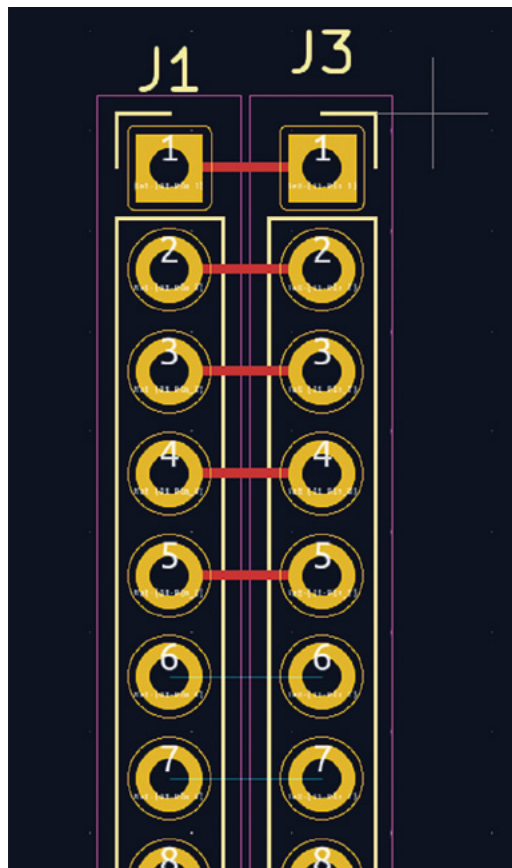

Figure 6 Drawing a rectangle that defines the cut edge of the PCB board
the grid to a more useful spacing. Select the 1 mm grid spacing, then left-click the rectangle tool. Left-click anywhere in the PCB Editor page and drag a rectangle (Figure 6). The rectangle should be snapping to the grid – we can drag it out until the labels tell us we are drawing a 21 mm width by 51 mm height rectangle. Left-click one more time to create the rectangle. Moving back to the Select Items (S) tool, we can now select the rectangle and press the **M** key to move it into position. Notice